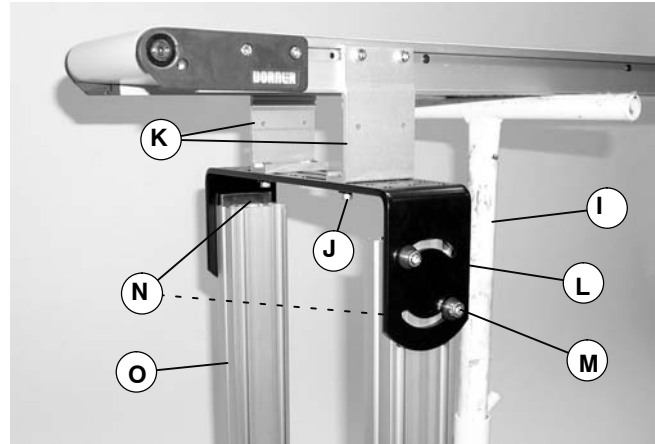

Figure 3
**NOTE:** Figure 3 shows a 2" (51mm) to 12" (305mm) stand mounting bracket (L). Removal of the two stand mounting brackets used with support stands wider than 12" (305mm) is similar.
#### 1. Place a support (I of Figure 3) below conveyor.